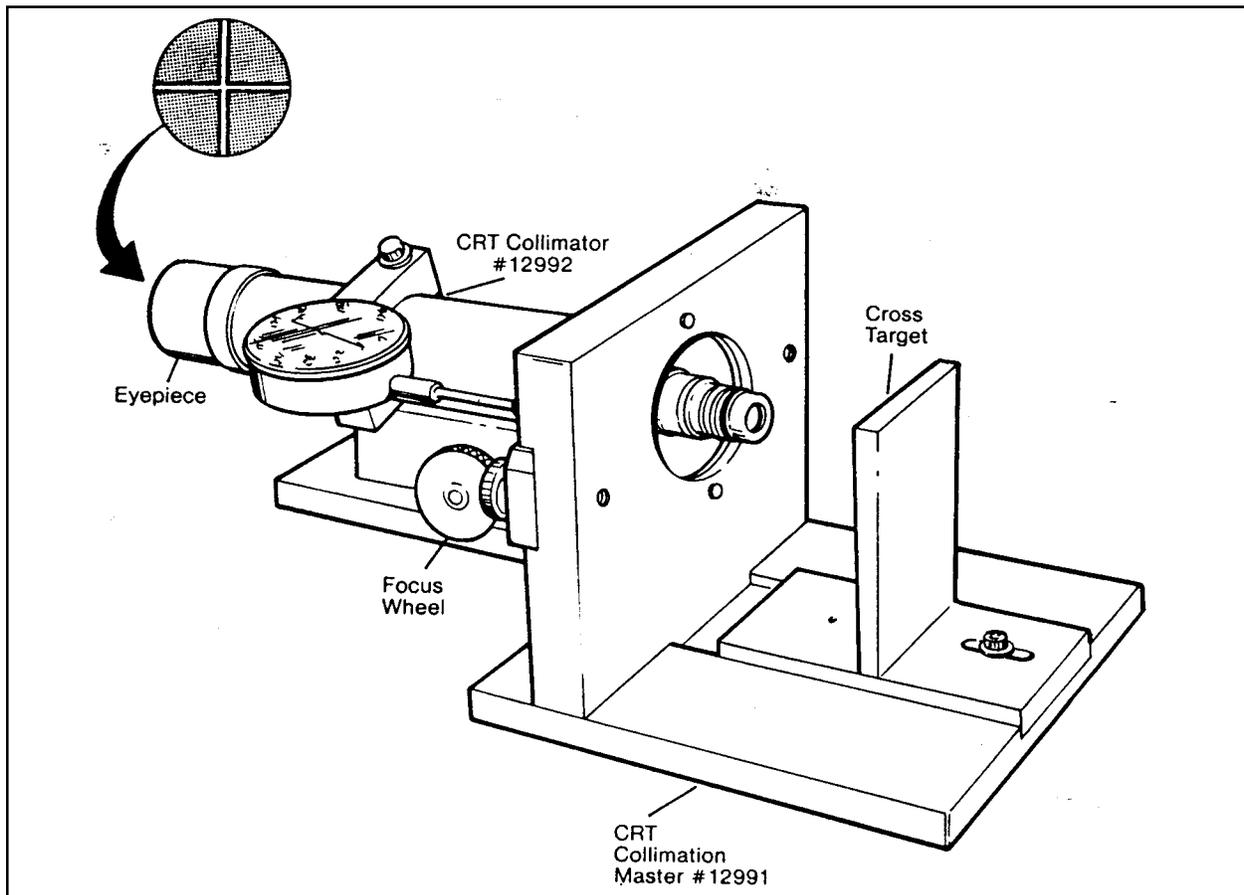

Figure 5-9. CRT Collimator
2. Install the CRT Collimator #12992 on the CRT Collimation Master #12991, using the thumbscrews to secure the two assemblies (Figure 5-9).